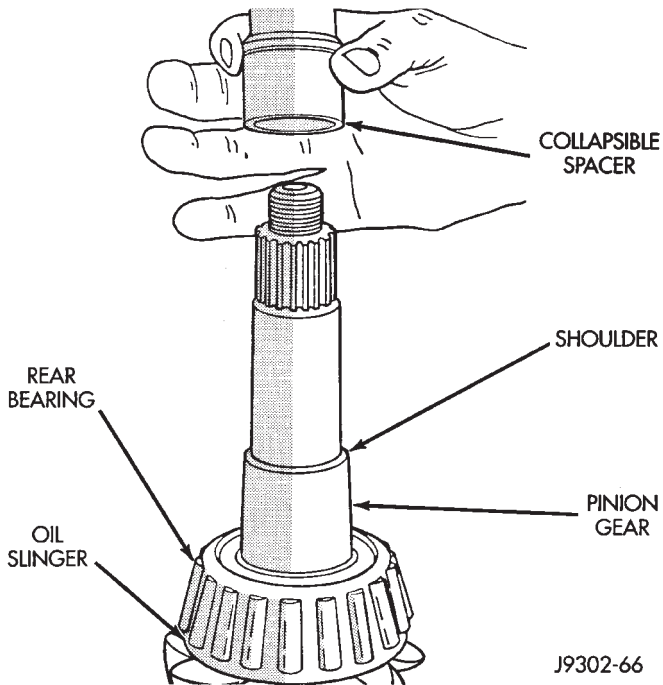

Fig. 47 Collapsible Preload Spacer
(7) Install a new collapsible preload spacer on pinion shaft and install pinion gear in housing (Fig. 47).